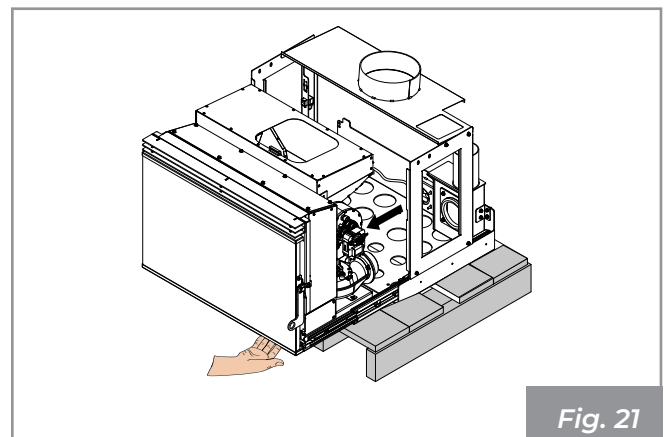

Fig. 21
- Close the door and pull the machine outward to the end of the guides' stroke (**Fig. 21**).